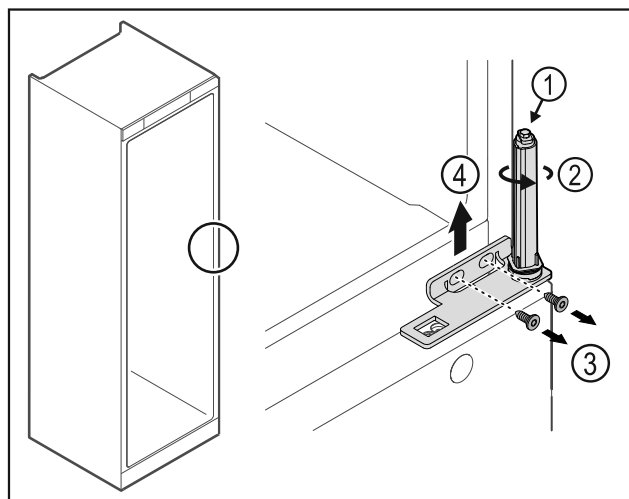

Fig. 22
- Do not disassemble the door closing system Fig. 22 (1).
- Turn the closing system Fig. 22 (2) until it clicks.
- Loosen the screws Fig. 22 (3) and lift off the hinge Fig. 22 (4).